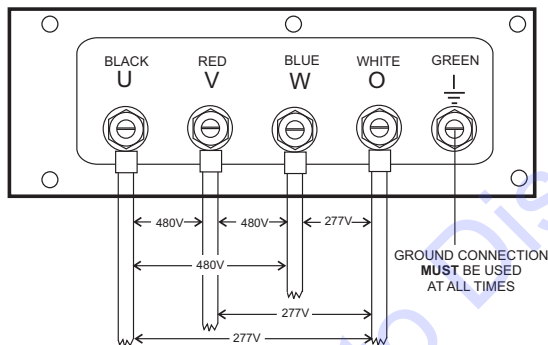

Figure 23. UVWO Terminal Lugs 3Ø-480V
2. Connect the load wires to the UVWO terminals as shown in Figure 23.